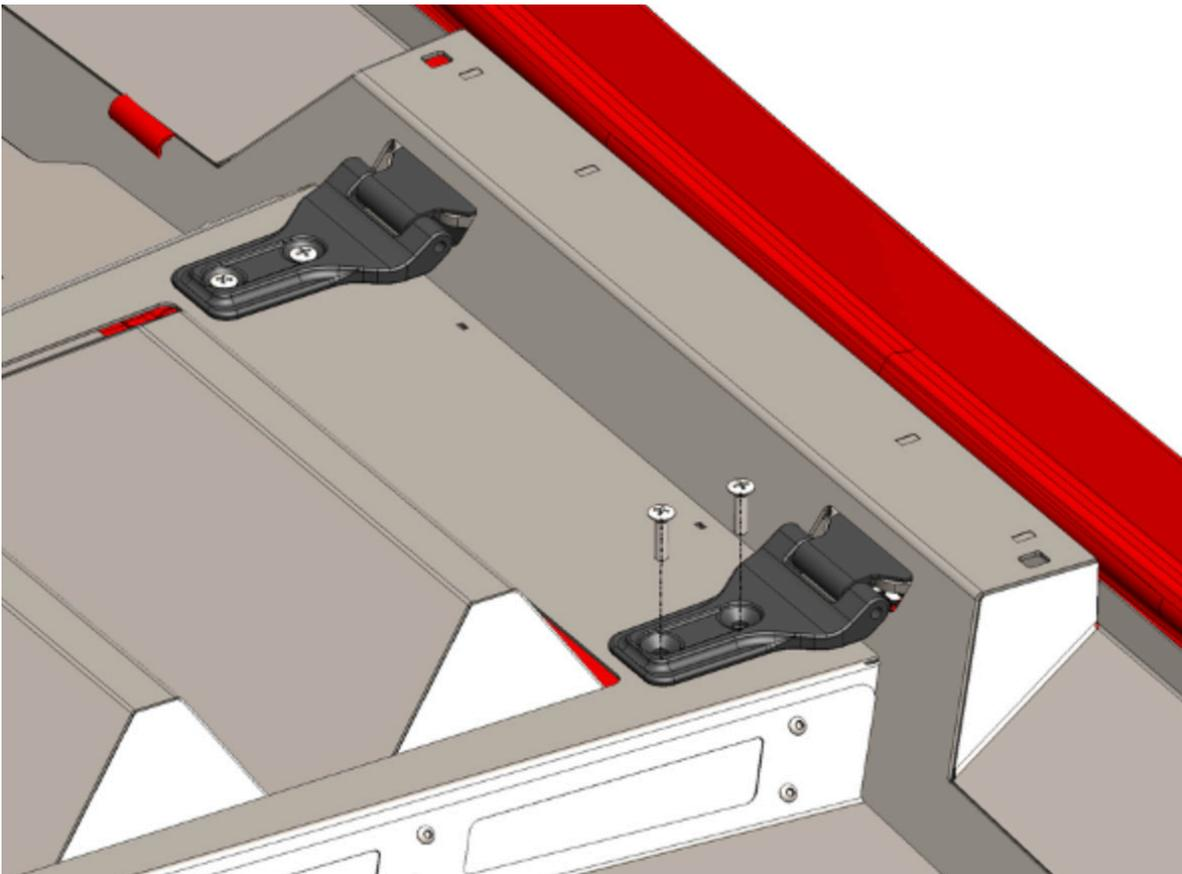

Figure 23
20. With assistance, hold the hood up to the hood hinges and use the OEM M8 bolts along with the provided M8 flange locknuts. Figure 23.